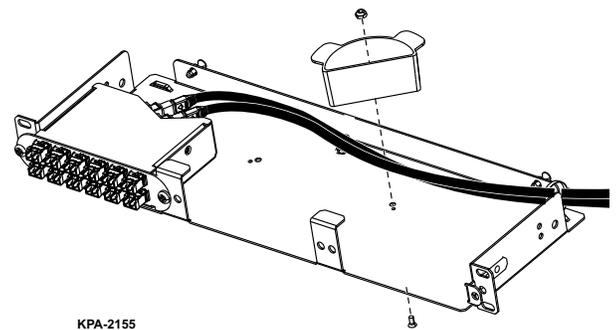

Figure 4 — Install Reduced-Depth Module
Step 3: Install the module in the opening in the orientation shown in Figure 4. Press the plunger fasteners into the holes to secure the module.